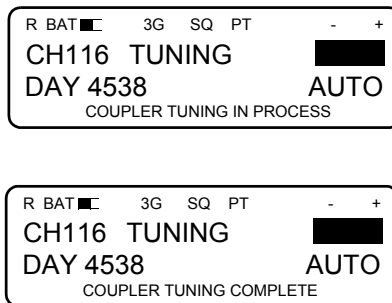

Figure 3-17. Tuning Screen
- c. The R/T will momentarily enter tuning mode. During this time, it tunes the antenna coupler (if enabled) on each channel of the channel group corresponding to the CHANNEL PLAN. See Figure 3-17.